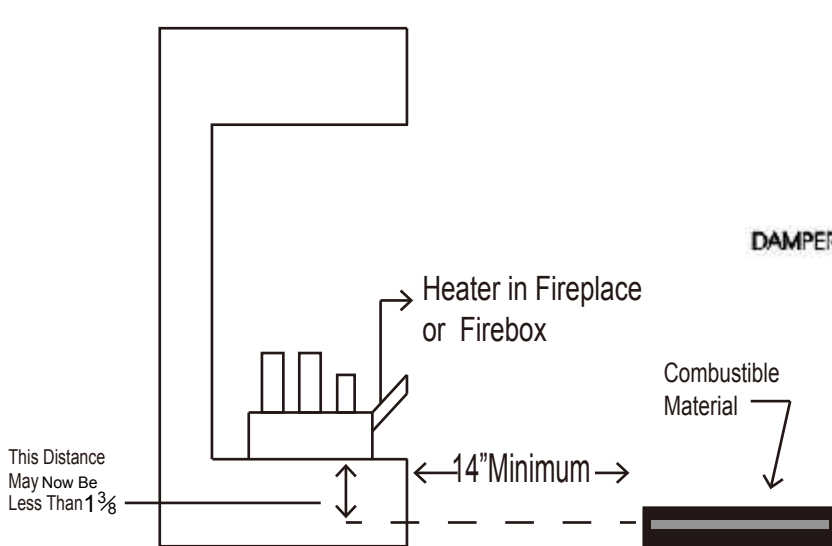

Figure 9 – Minimum Clearance Above Combustible Flooring with Noncombustible Material Installed at Base of Fireplace.
The gas log heater may be installed nearer to the floor is a minimum of 14" of noncombustible material such as a slate or marble is installed between the base of the fire place and the combustible flooring. **See Figure 9.**
1. If installing appliance on the floor, you must maintain the minimum distance of 14 inches to combustibles (see Figure 9)